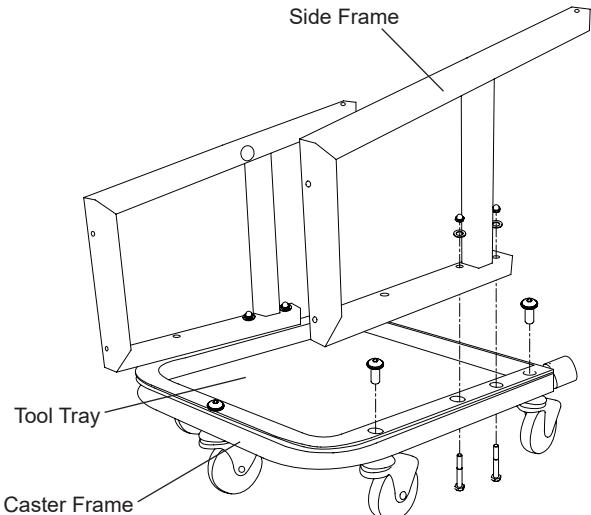

Figure 2 - Assembling tool tray and casters
- Assemble tool tray and five casters to caster frame using Allen head binding barrels. Then attach two creeper side frames to caster frame with two M8 x 60 hex head bolts, two washers and two acorn nuts each (Fig 2).